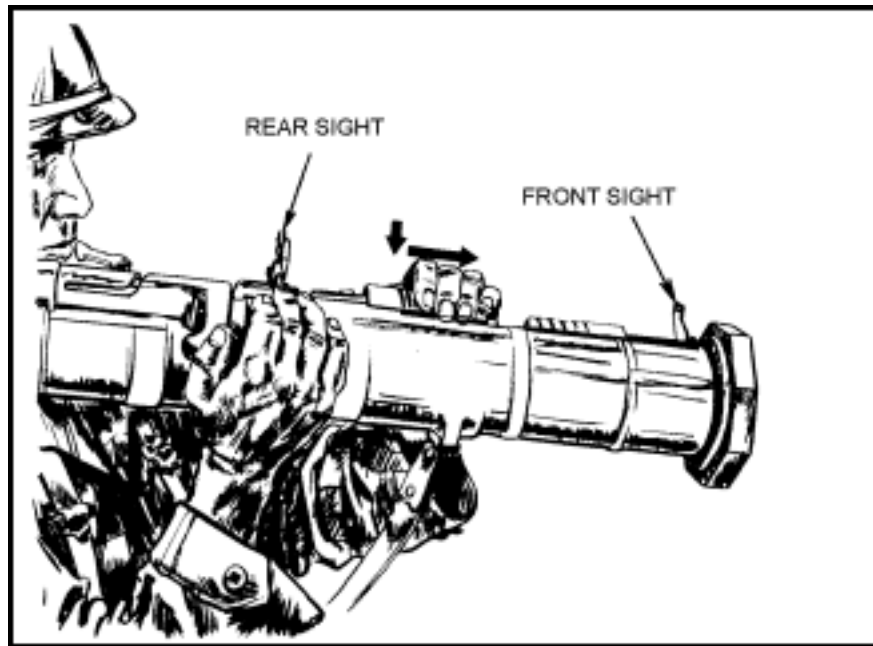

Figure 3-15. Opening and adjusting the sights.
e. With the AT4 on your right shoulder, stabilize it with your left hand and open the sights with your right hand. Press down and pull backward on the front sight cover until the front sight pops up (Figure 3-15), then press down and forward on the rear sight cover until the rear sight pops up. The rear